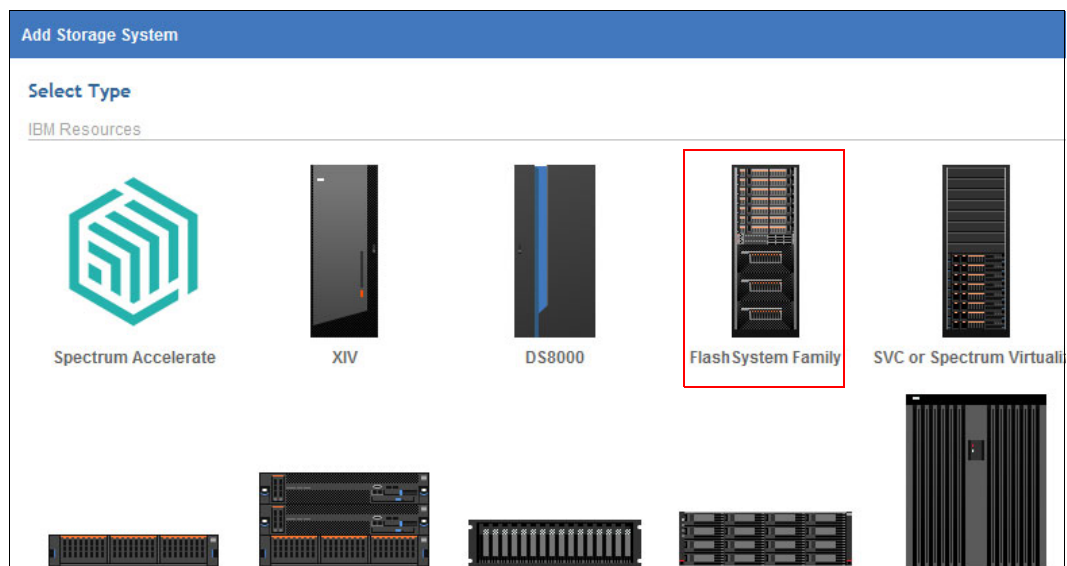

Figure 2-1 Add Storage System window
1. Click **Add Storage System** from the Block Storage Overview in the Spectrum Control main window, and select **FlashSystem Family**, as shown in Figure 2-1.